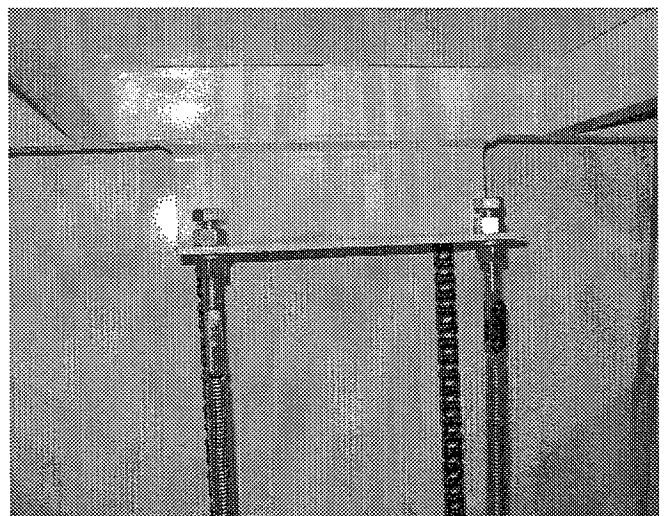

Figure 11
9. Return end of chain. It should already be attached to bottom of carriage via spring. There should be enough tension on springs to keep chain tight around sprockets on motor when lift is at upper level. If more tension is needed, adjust with bolts. See Figure 11.